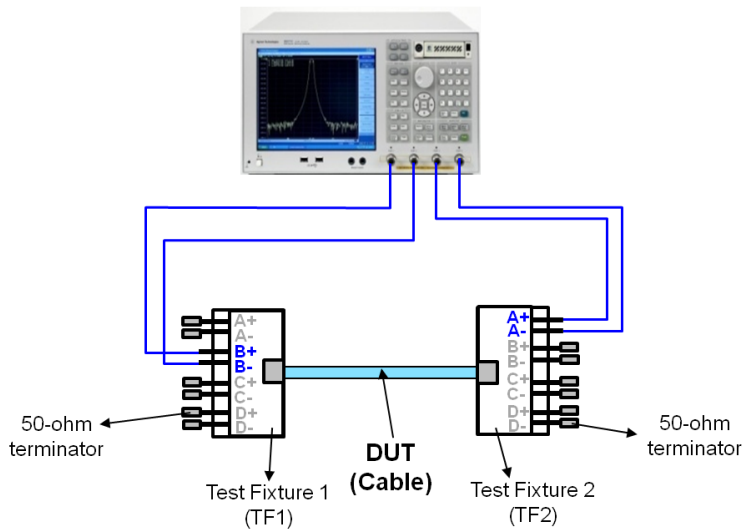

Figure 5-4 Equal Level Far-end Crosstalk (ELFEXT) Test Setup
1. Connect the E5071C's ports (Port 1 to 4) and the test fixture with the RF cables. (Figure 5-4)